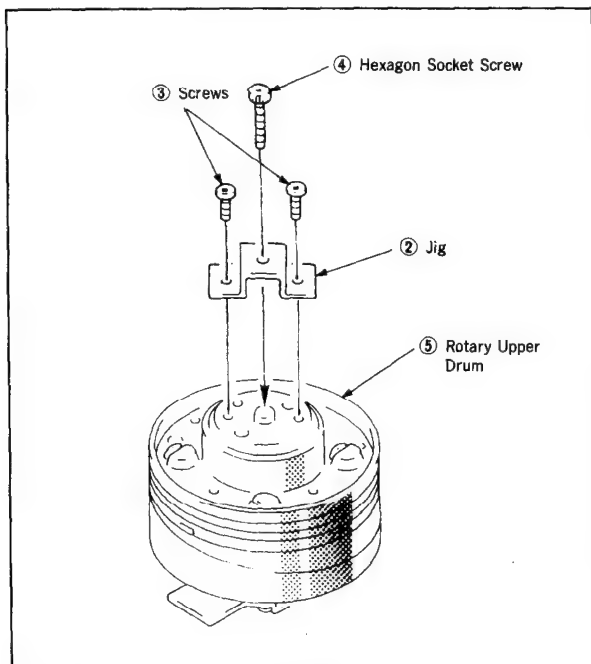

Fig. 29
- 2) Mount the jig ② (Ref. No. J-8) with the two supplied screws ③, then screw the attached hexagon socket screws ④ to the jig ②. The rotary upper drum ⑤ will move upward and come off (Fig. 29).